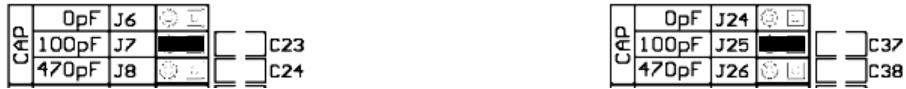

Figure 4: Left and right channel jumper banks for capacitance load adjustments at default settings
There are three (3) different settings available for setting the capacitive load; 0pF, 100pF and 470pF which are represented by jumper sockets J6, J7 and J8 respectively for the left channel and jumper sockets J24, J25 and J26 for the right channel (refer figure 4 below). The factory default setting is 100pF, therefore jumpers will be found in sockets J7 & J25.